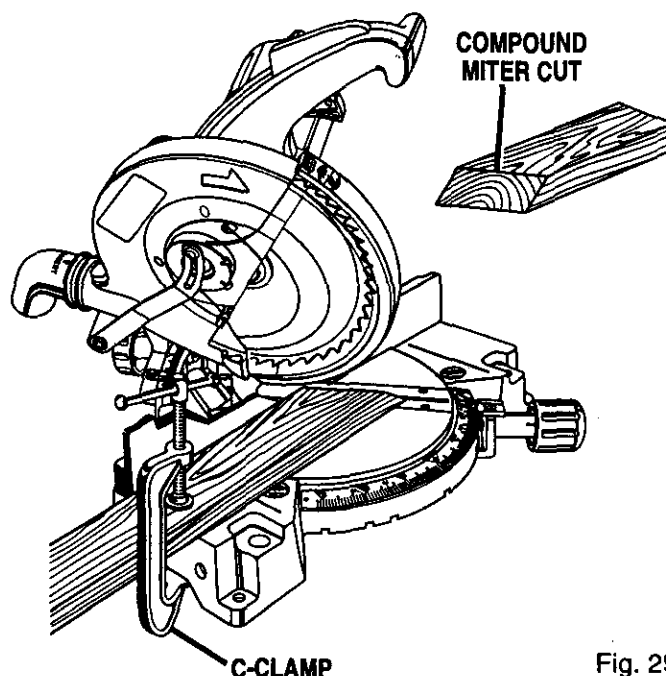

Fig. 29
- Grasp the stock firmly with one hand and secure it against the fence. Use the optional work clamp or a C-clamp to secure the workpiece when possible. *See Figure 29.*
- Slowly lower the blade into and through the workpiece. *See Figures 29 and 30.*